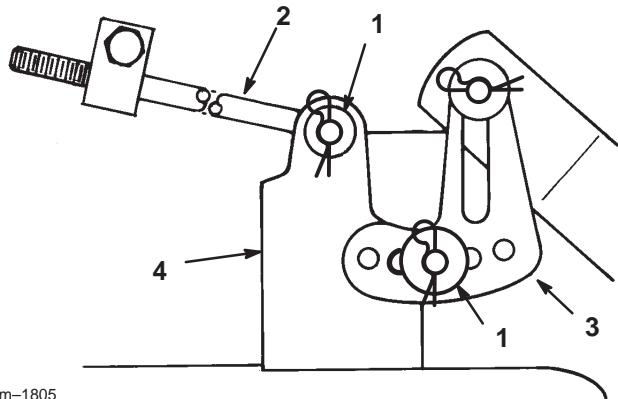

Figure 39
10. Remove the hairpin cotter and washer from the end of the long rod (Fig. 39). Slide the rod out of the mower mount.
11. Remove the hairpin cotter and washer at the mower leveling bracket (Fig. 39). Slide the bracket off of the mounting pin. Install the washer and hairpin cotter for storage.